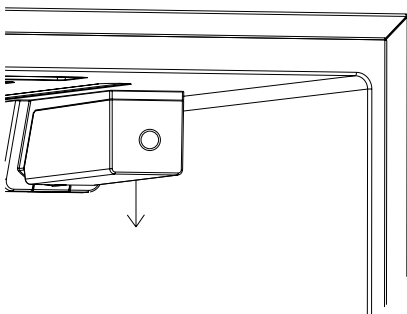

Figure 1
1. When the refrigerator is used for the first time, press in the button on the front of the filter cover and move the filter cover downward (Figure 1).